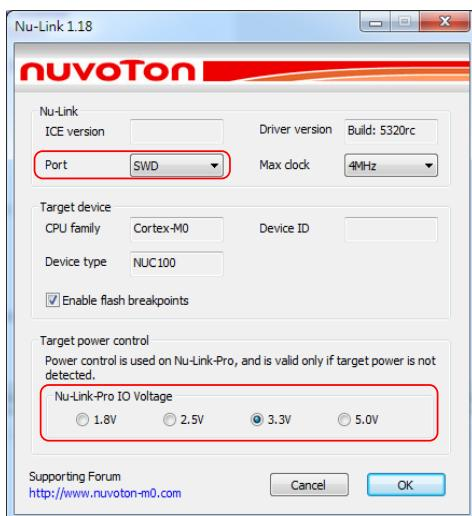

Figure 5.2-32 Specify the Port and Target I/O Voltage
- (8) Click **OK** to save the settings and return to the IAR EWARM main window.
(9) Invoke **Nu-Link2-Pro** to open the **Nu-Link** form, select **SWD** as the Port, and specify the **Nu-Link2-Pro I/O Voltage** in the **Target power control** section (3.3V in this case), as shown in Figure 5.2-32.